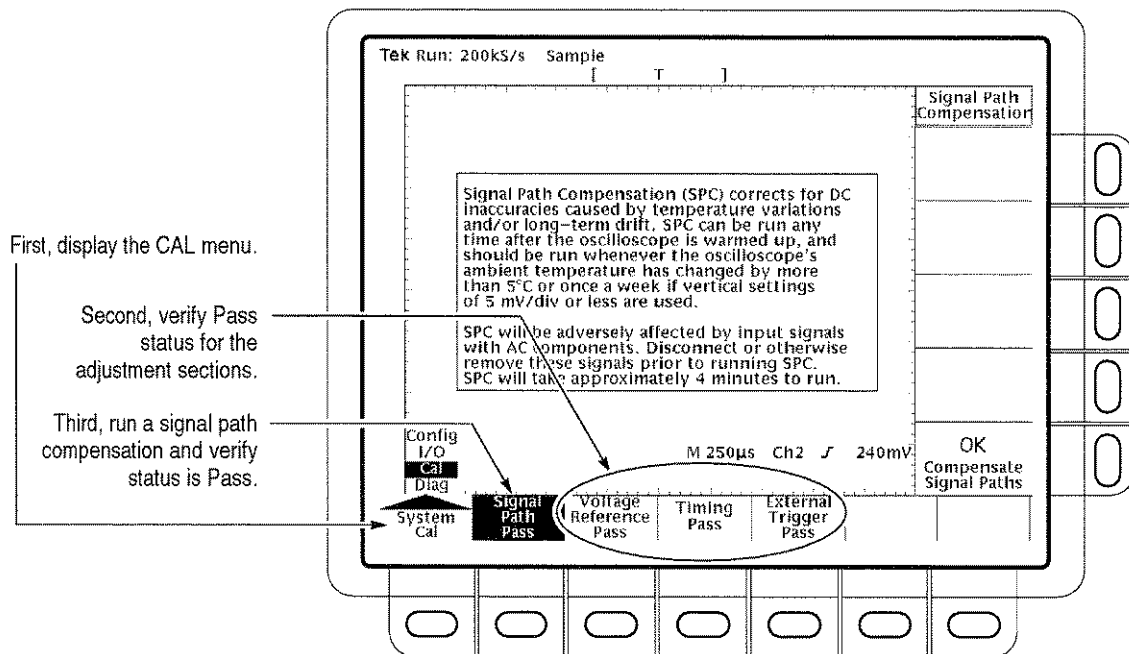

Figure 1-3: Verifying adjustments and signal path compensation
7. Check that the word **Pass** appears in the main menu under the **Voltage Reference**, **Timing**, and **Ext Trig** menu labels. (See Figure 1-3.) If any of the labels read **Fail**, the oscilloscope has failed the self test. Contact your Tektronix representative for assistance.
9. Check that the word Pass appears under Signal Path in the main menu. (See Figure 1-3.) If Pass does not appear, the oscilloscope has failed the performance verification; return it to Tektronix for servicing.